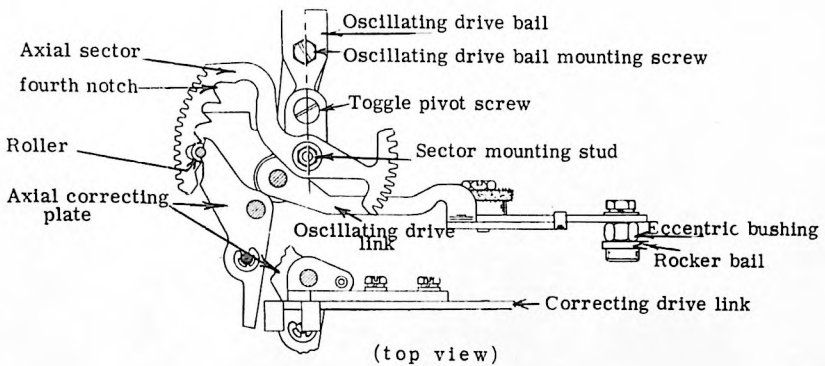

Figure 10
5. 16 Correcting Drive Link (Figure 10)